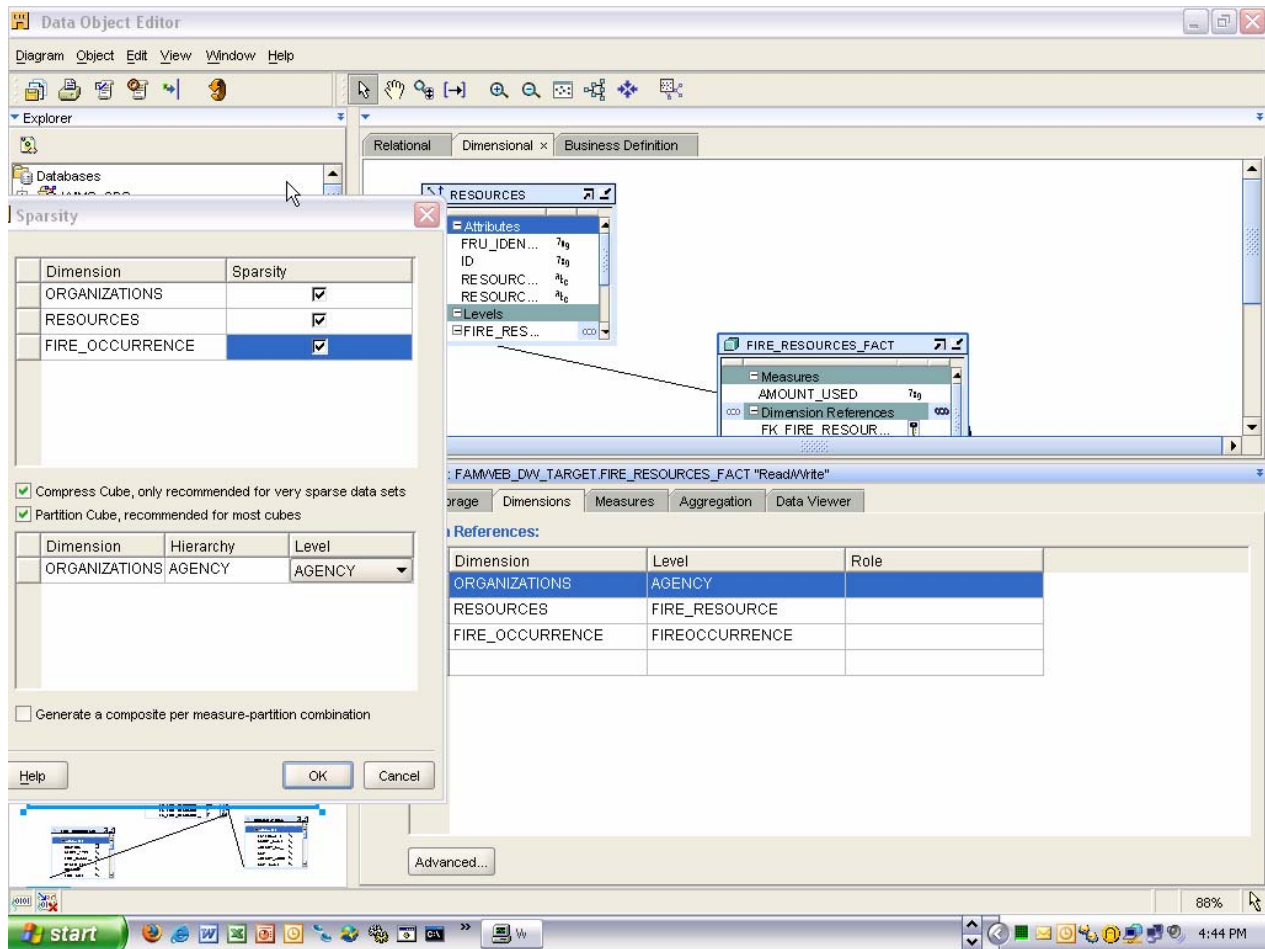

Figure 4. OLAP Cube implementation details in OWB
The integration of OWB and 10g OLAP is performed through OWB as well. In previous version the OLAP integration was done externally. OLAP is not fully integrated with OWB! The designer can now choose how the OLAP cubes and dimensions will be implemented, ROLAP or MOLAP. If the Cubes will be implemented via MOLAP, i.e. stored in an Analytic Workspace (AW), then additional implementation details can be made to control storage and data loading. If a 10g database will be used new OLAP features such as compressed composites and data partitioning can be utilized in the design. Such features can have a major impact in the storage and load times. Some of the screens supporting this can be seen in Figure 4.